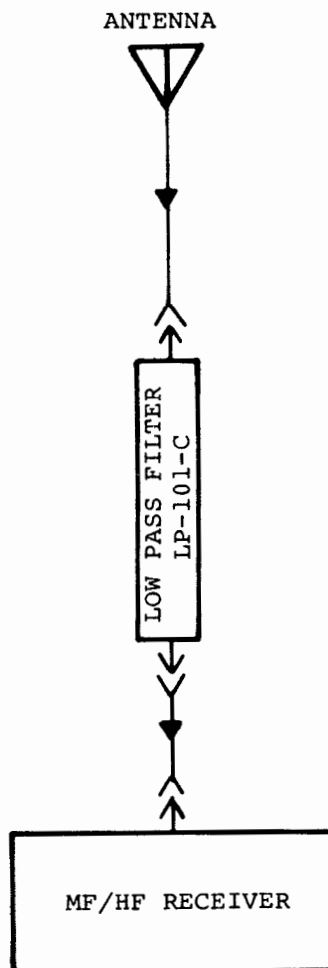

Figure 5-6 Lowpass Filter LP-101
- c. INTERCONNECTION DIAGRAM. - See Figure 5-6.